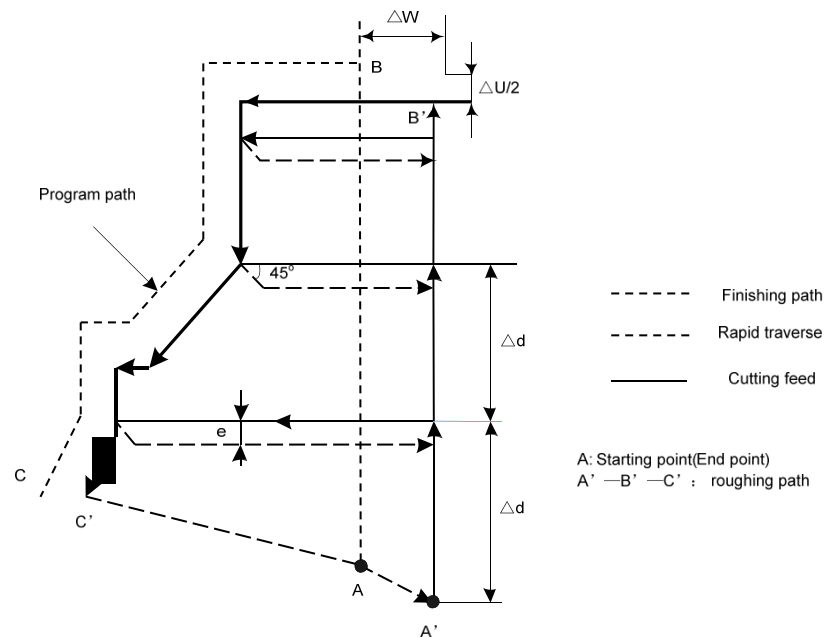

Fig. 3-25 G71 cycle path
1) Execution process: (Fig. 3-25)
- ① X rapidly traverses to A' from A point, X travel is Δu , and Z travel is Δw ;
- ② X moves from A' is Δd (tool infeed), ns block is for tool infeed at rapid traverse speed with G0, is for tool infeed at feedrate F with G71, and its direction of tool infeed is that of A→B point;
- ③ Z executes the cutting feeds to the roughing path, and its direction is the same that of Z coordinate B→C point;
- ④ X, Z execute the tool retraction e (45° straight line) at feedrate, the directions of tool retraction is opposite to that of tool infeed;
- ⑤ Z rapidly retracts at rapid traverse speed to the position which is the same that of Z coordinate;
- ⑥ After executing X tool infeed ($\Delta d + e$) again, the end point of traversing tool is still on the middle point of straight line between A' and B' (the tool does not reach or exceed B'), and after executing the tool infeed ($\Delta d + e$) again, execute ③; after executing the tool infeed ($\Delta d + e$) again, the end point of tool traversing reaches B' point or exceeds the straight line between A'→B' point and X executes the tool infeed to B' point, and then the next step is